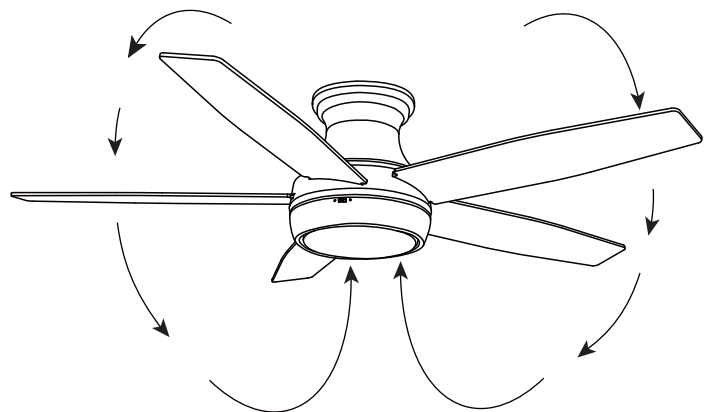

Figure 14
* Cool weather - (Reverse) An upward air flow moves warm air off the ceiling area as shown in Figure 14. This allows you to set your heating unit on a lower setting without affecting your comfort.